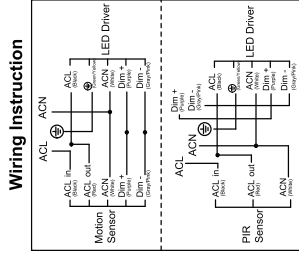

Figure 8
- 2-1. Motion Sensor / PIR Sensor: (Both sensor are with same installation) connect the wires according to the wiring diagram. (Figure 8)